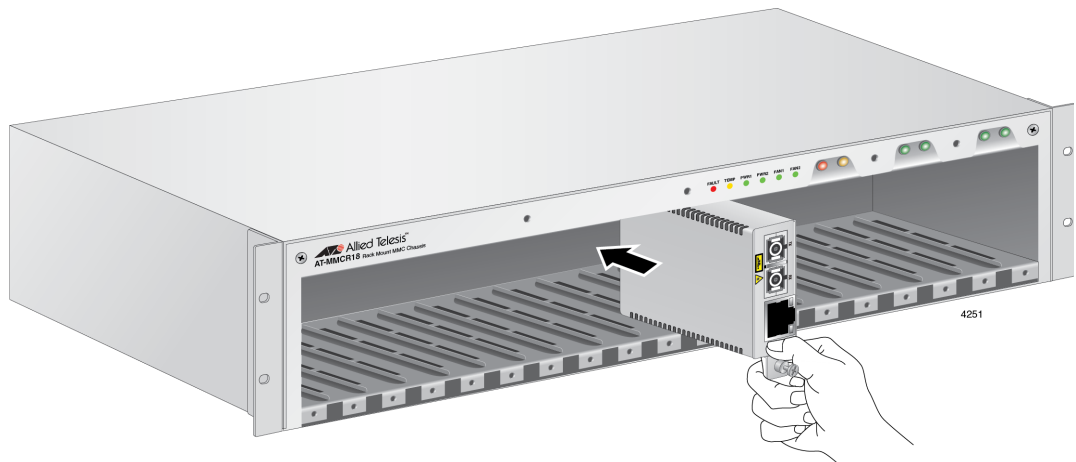

Figure 17. Installing the Media Converter in the Chassis
- Slide the media converter assembly into the chassis as shown in Figure 17.